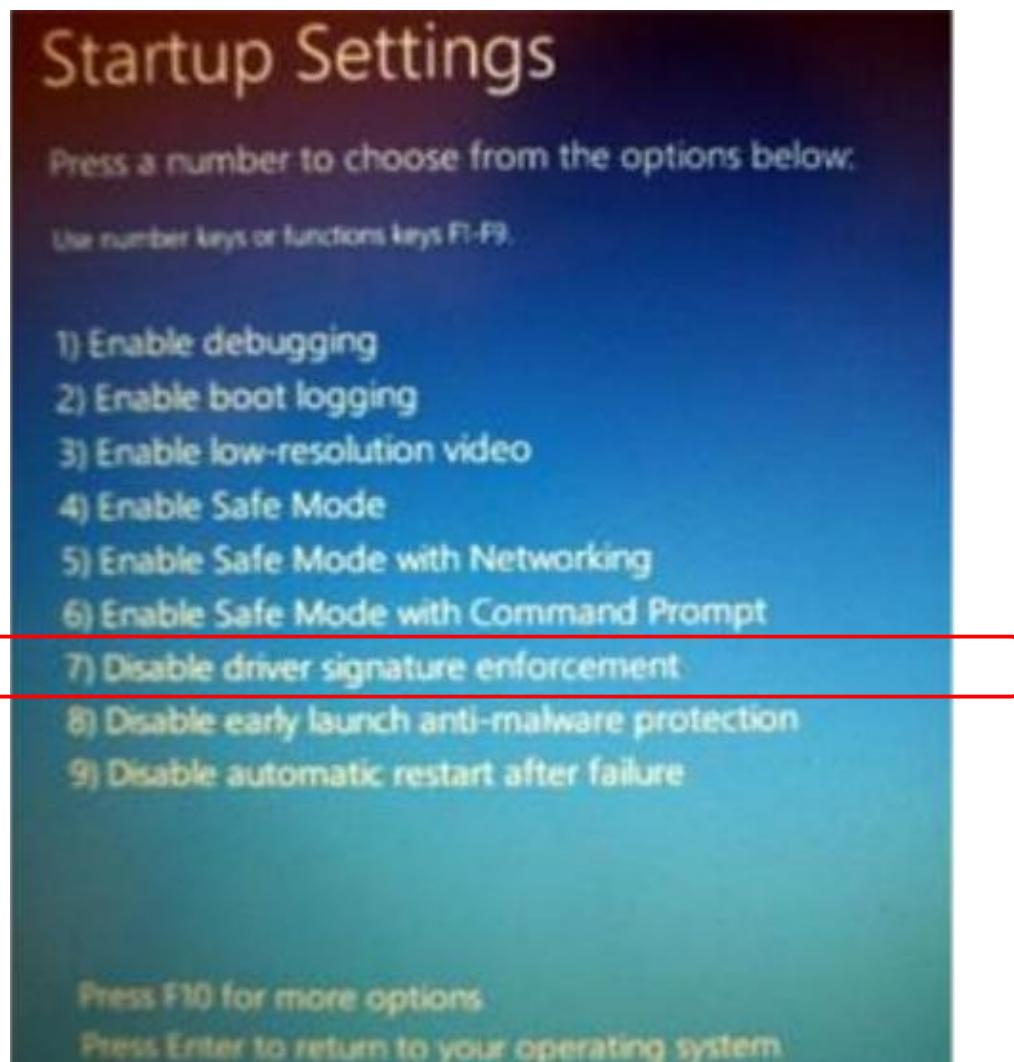

Figure 59: Click the 7 key or the F7 function key.
- In the “Startup Settings” screen shown in Figure 59, you have 9 possible choices. The option we want to select is 7, labeled as “**Disable driver signature enforcement**”.